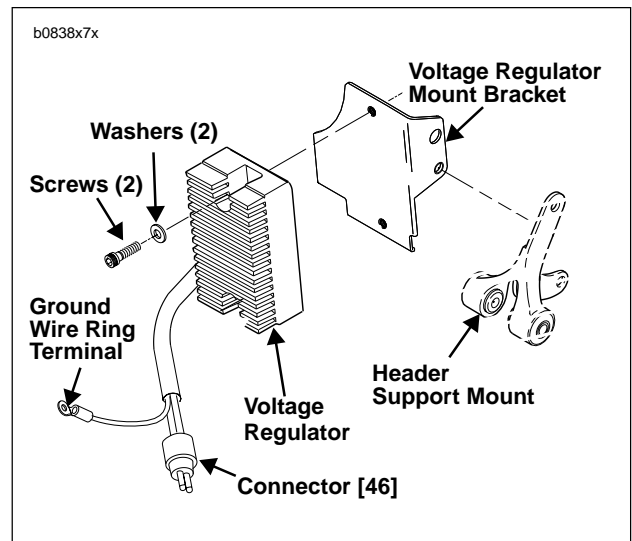

Figure 7-28. Voltage Regulator
- b. See Figure 7-28. Disconnect BK ground wire from gold post of main circuit breaker.
1. See Figure 7-28. Attach **new** voltage regulator to bracket using two screws and washers. Tighten screws to 9-11 ft-lbs (12-15 Nm).